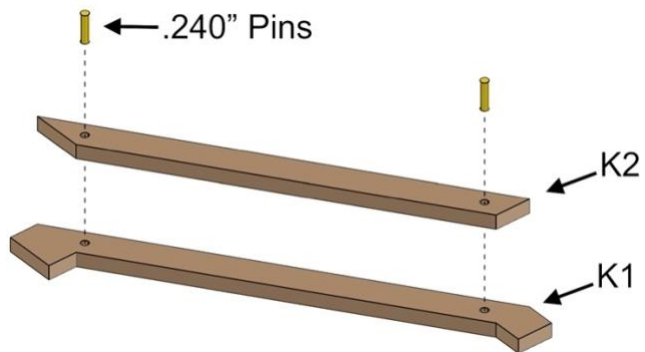

Fig. 41
- Align parts exactly as shown in Fig. 41.